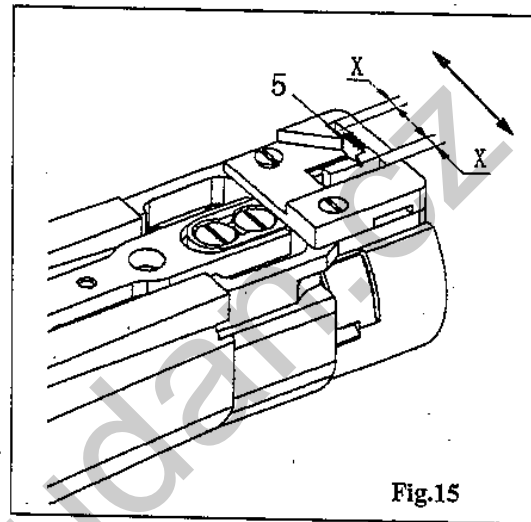
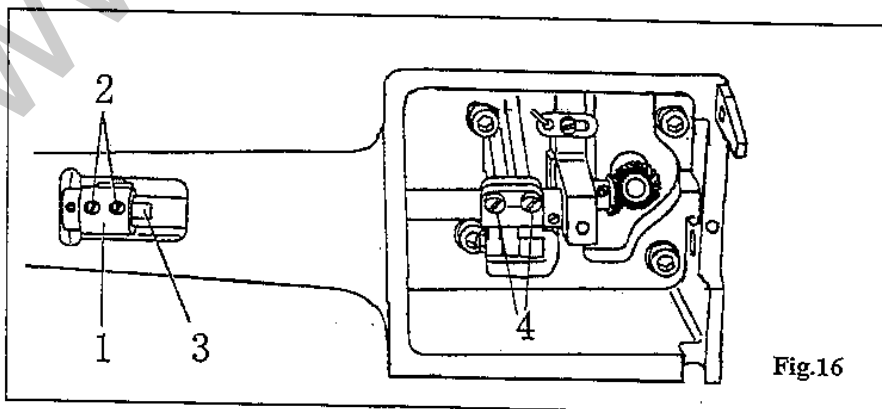

Fig.15
Fig.16
(2) Positioning the feed dog in the direction of sewing (Fig.15 Fig.16)